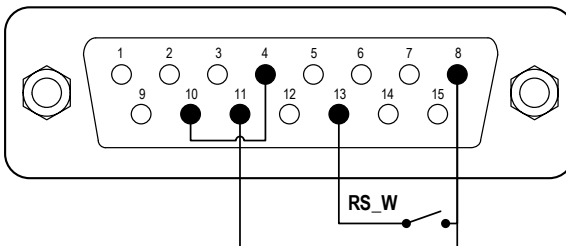
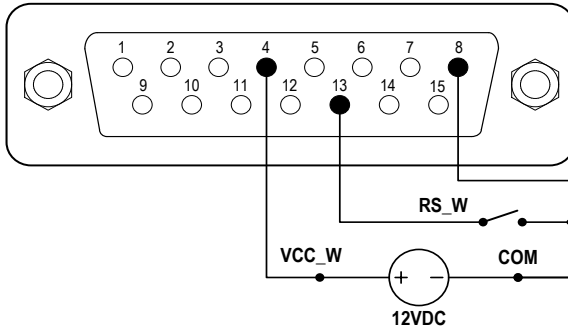

Figure 46. Control Start/Stop with Internal 12V Power Source
Figure 47. Control Start/Stop with External 12V Power Source
- 1) Power pump off. Wire the DB15 connector as shown on Figure 46 or Figure 47, and connect it to the DB15 port on the rear of the pump.